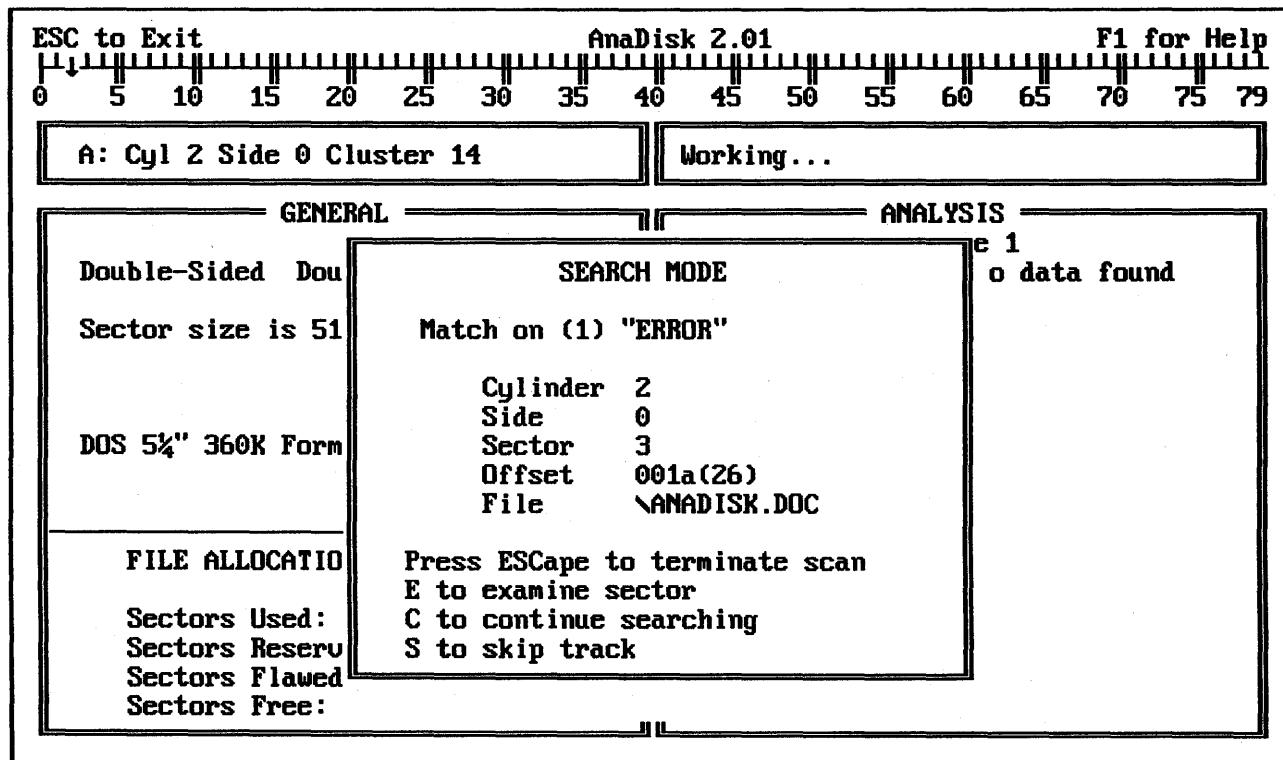

Figure 16: Search match display.
Print hits without pausing instructs **AnaDisk** to record all search matches on the printer without stopping for verification. Normally, **AnaDisk** opens a window when a match is found, as shown in Figure 16, and requests further direction.
Unless **Print hits without pausing** has been selected, each match is reported as shown in Figure 16. The value of the matching key is also displayed. If any positions of the key were entered in hexadecimal mode, the key will be displayed in hexadecimal notation. Otherwise, the key will be displayed in ASCII.
2. If **E** is pressed, the sector in which the match occurred is displayed with the **Edit Sectors** display. If **ESCAPE** is pressed while in this display, **AnaDisk** exits to the match screen (Figure 16).